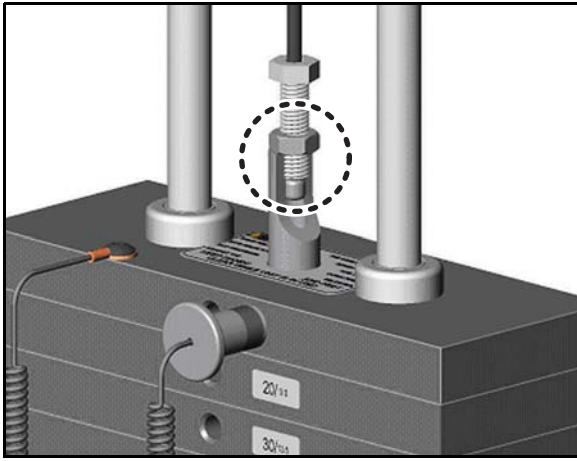

Figure 3: Cable bolt must have a minimum of ten threads into the selector stem
- Make sure that the cable bolt is threaded a minimum of ten threads into the selector stem, and the locking jam nut is tight. (Refer to Figure 3.)
- Check the cable termination at the weight stack. For most equipment, the exposed shank can be no more than 1¼ inches (32mm); this distance allows for a minimum of 10 turns of the bolt into the selector stem (refer to Figure 3 earlier). Check and adjust the distance accordingly. *Also make sure that the locking jam nut is tight against the selector stem.*